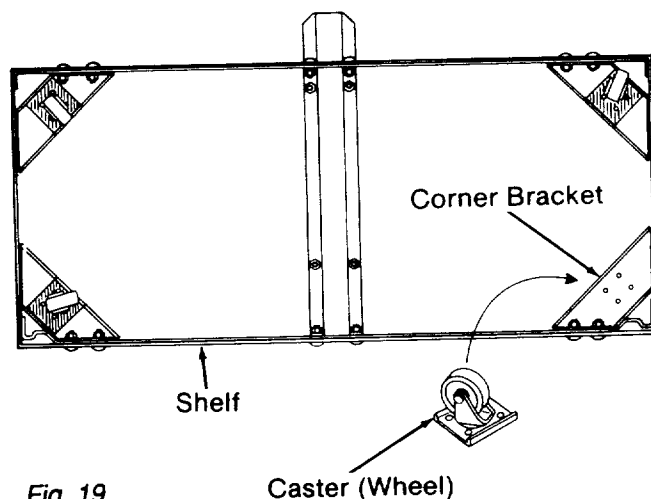

Fig. 19
1. Put the *casters (wheels)* on the *shelf* and *corner brackets*. Since the *shelf* is upside down, the *wheels* will point up. Line up four holes in each corner. (Figure 19)